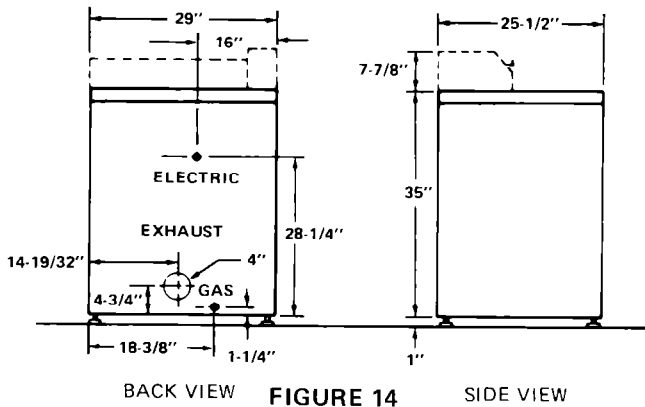

FIGURE 14
- Exhaust outlet at rear of the dryer is located as shown in Figure 14. Detailed instructions on spacing for side and rear clearances can be found in the section "Instructions for Recessed or Closet Installations." Information on minimum spacing side to side and to the rear is also found on a label located on back panel.